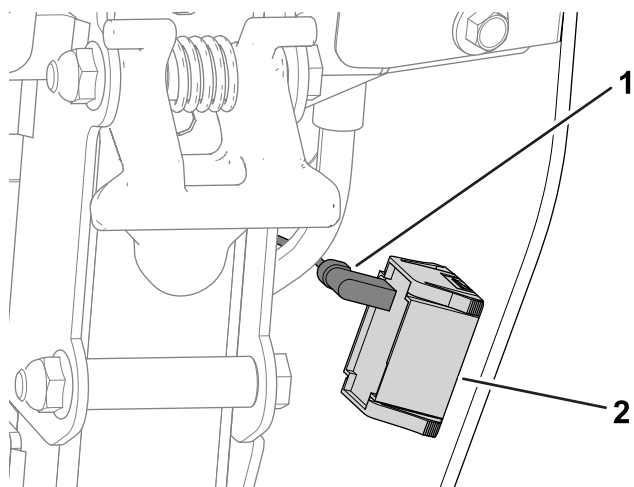

Figure 40
- A. Disconnect the wire-harness connector from the hour meter (Figure 40).